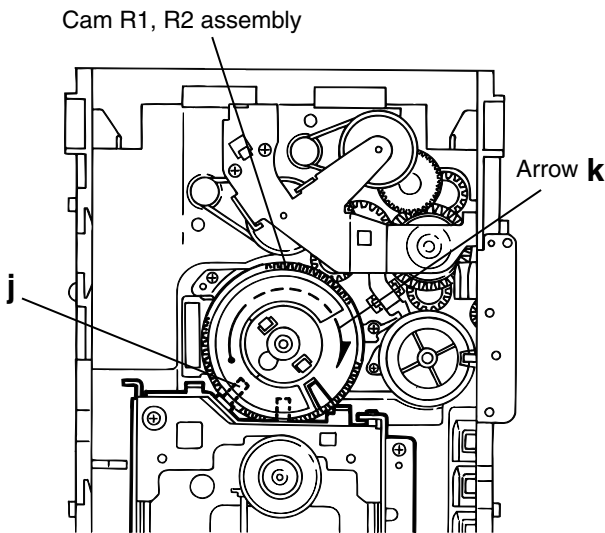

Fig.11
### ■ Removing the CD traverse mechanism (See Fig.11 and 12 )
1. For dismounting only the CD traverse mechanism without removing the CD loading mechanism assembly, align the shaft "j" of the CD loading mechanism assembly to the position shown Fig.11 while turning the cam R1 and R2 assembly in the arrow direction "k".